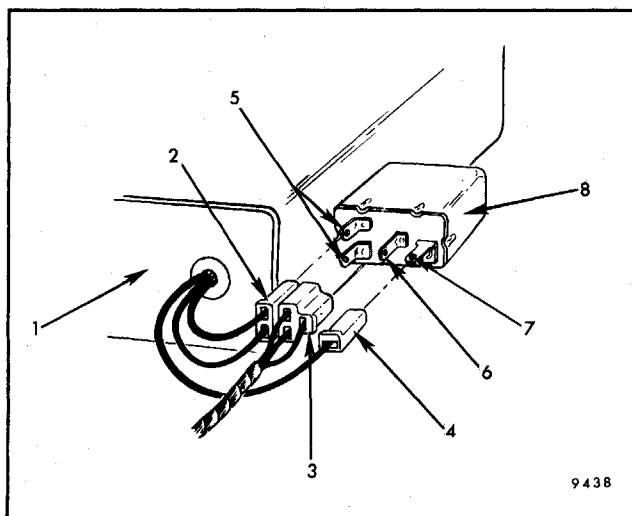

Fig. 10-29-Seat Adjuster Motor Control Relay
1. Disengage triple connector body from seat motor relay terminal (Fig. 10-29).
1. Disconnect three motor leads (double and single connector) from relay assembly. These are wires leading from the motor to relay (Fig. 10-29).